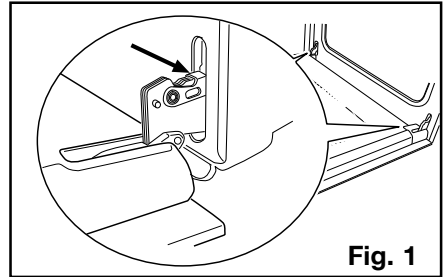

Fig. 1
2. Locate the two door hinges (Fig. 1).